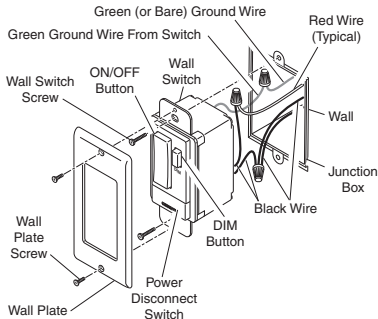

Figure 3 - Installing 3-Way Wall Switch (Transmitter Shown)
- Connect the green ground wire from transmitter to the ground wire removed from old switch. Use one of the supplied wire connectors to secure the wires (see Figure 3).
- Position the wall switch transmitter in the junction box with the DIM button located to the right. Use the two wall switch screws (long) supplied to mount the transmitter to the junction box (see Figure 3) supplied to mount the transmitter to the junction box (see Figure 3). Push excess wiring into junction box while you do this, bending the wires to fit if necessary.